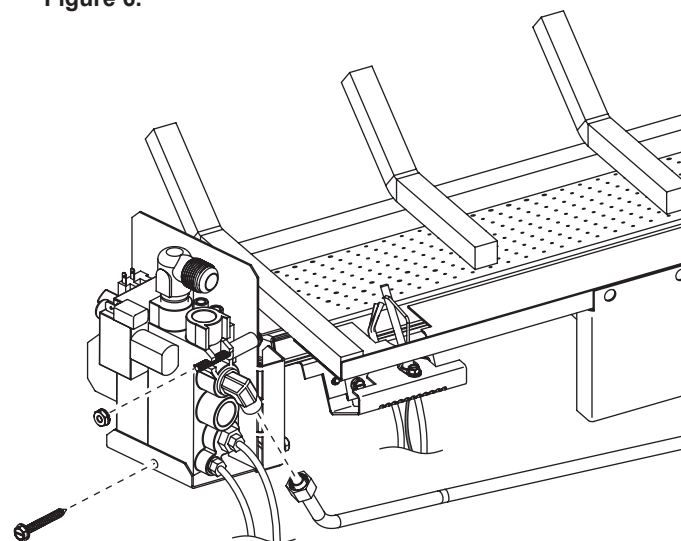

Figure 6
10. Using 5/16" nut driver, remove the hardware retaining the Gas Valve to the Valve Bracket. Using a 9/16" open-end wrench, break the Gas Supply Tube free from the Brass Elbow. **See Figure 6.**